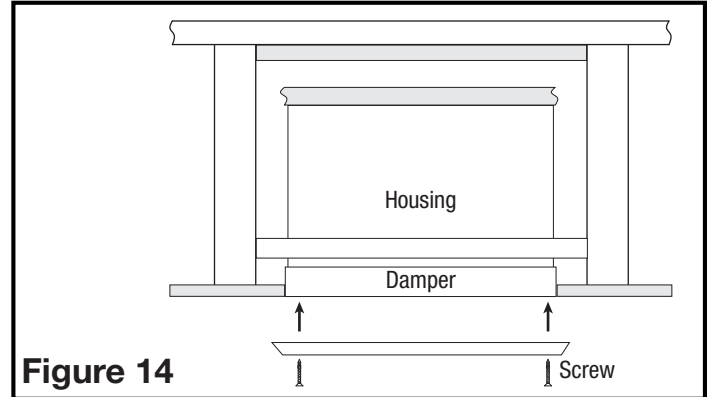

Figure 14
6. Once the ceiling damper is installed and secure, position the metal fan grill in place aligning the two holes in the fan grill with the two extruded holes on the ceiling damper frame. Use the remaining two #8 x 1" screws to secure the grill onto the fan (**Figure 14**).